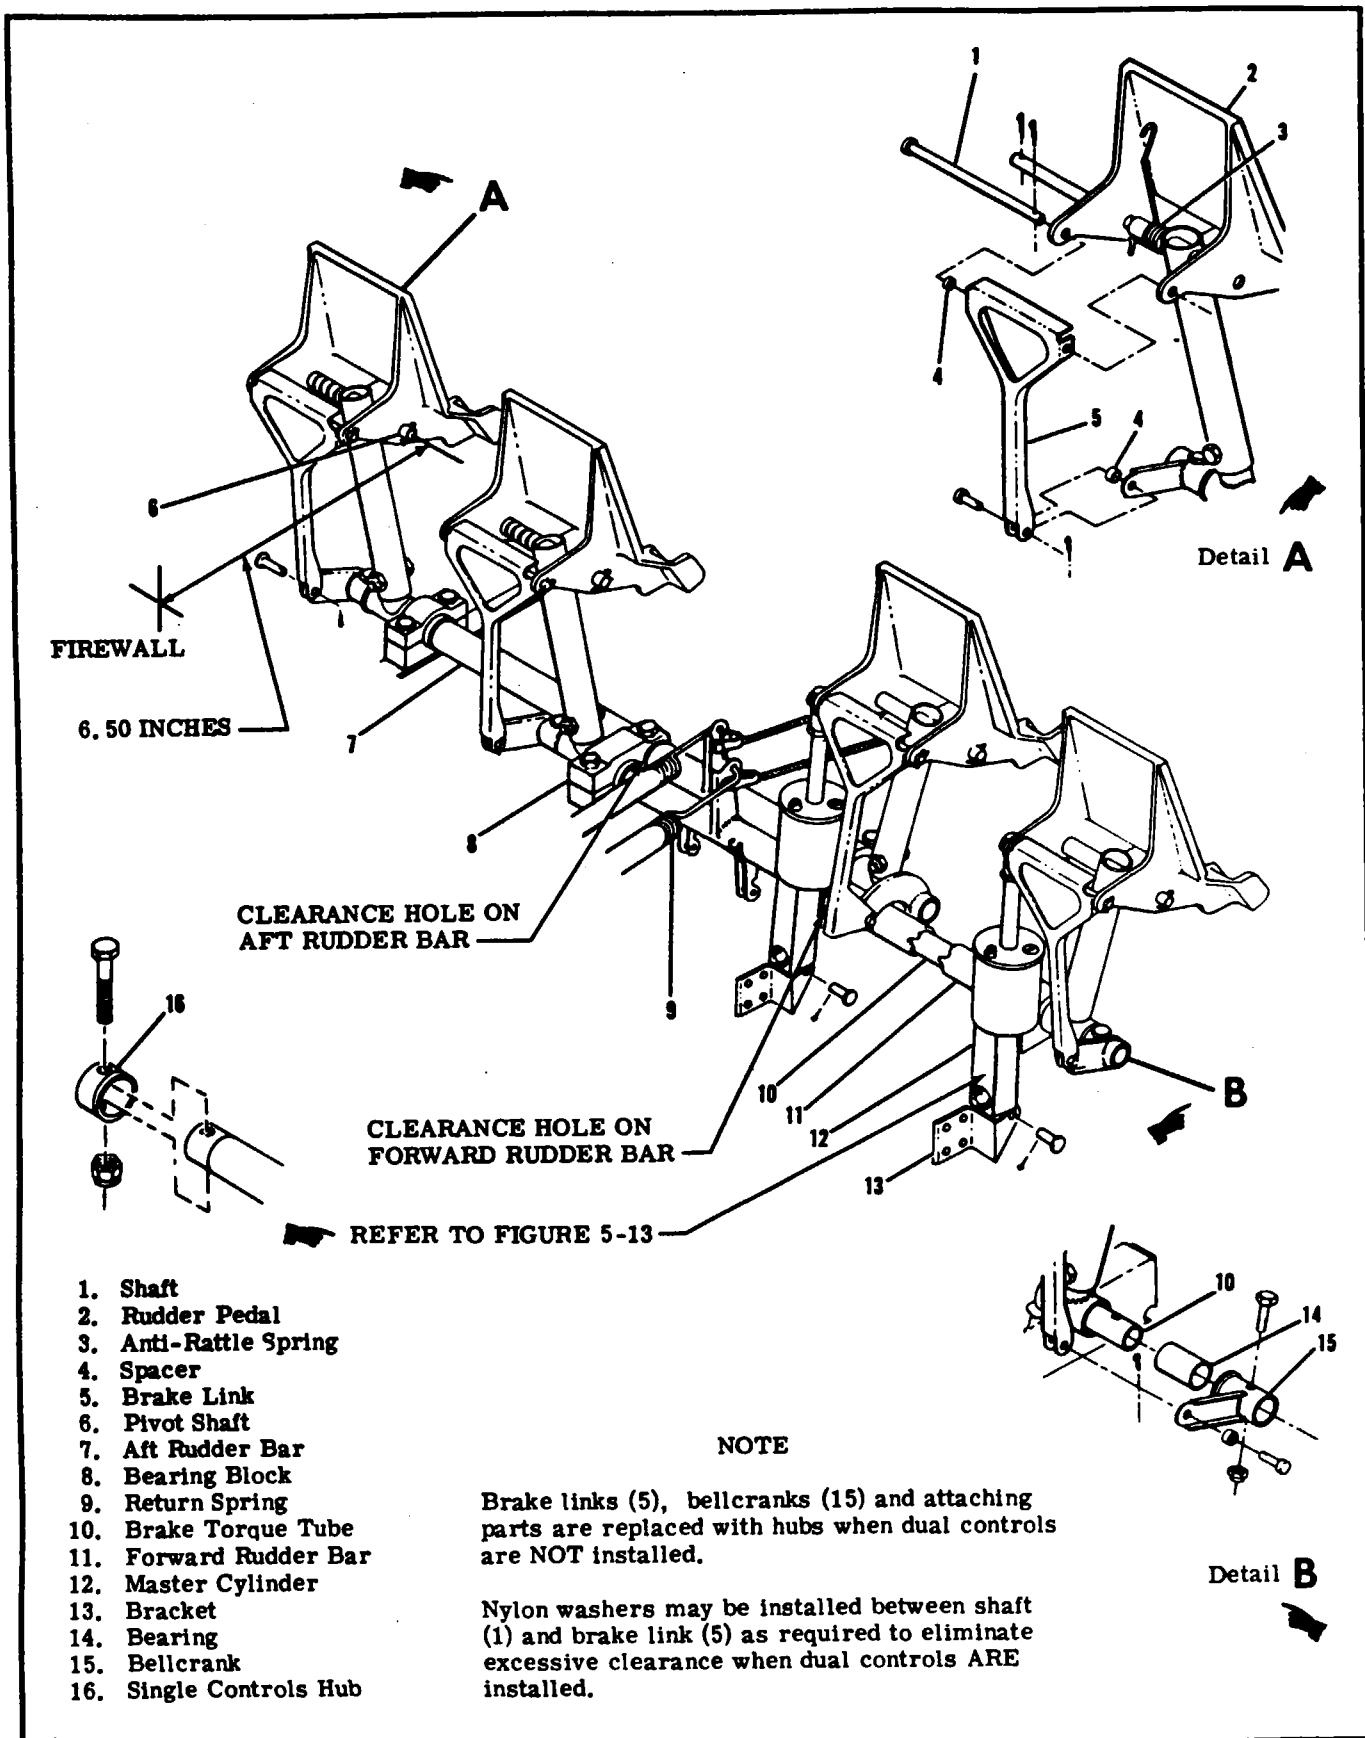

Figure 10-2. Rudder Pedals Installation
Insufficient cable tension.	Refer to figure 10-2 for distance between firewall and pedals. Rig system in accordance with paragraph 10-11.
10-4. RUDDER PEDAL ASSEMBLY. (Refer to figure 10-2.)
c. Thru Aircraft Serial 17263809 and F17201324, adjust cables at turnbuckles (6); beginning with Aircraft Serial 17263810 and F17201325, adjust cables at clevises (11) to align rudder and pedals in neutral position, 6.50 inches from firewall and pedal pivot shafts (index 6, figure 10-2). This step automatically determines cable tension through use of return springs (index 9, figure 10-2).